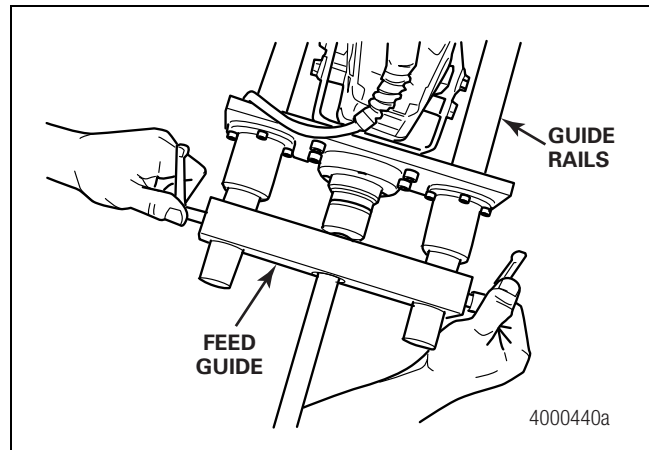

Figure 2.33
- Tighten the feed guide onto the guide rails. Figure 2.33.